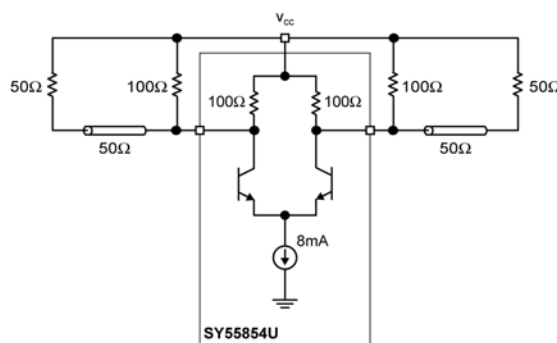

**Figure 3b. Individually Terminated
8. Tested using environment of Figure 3b, 50Ω load CML output.